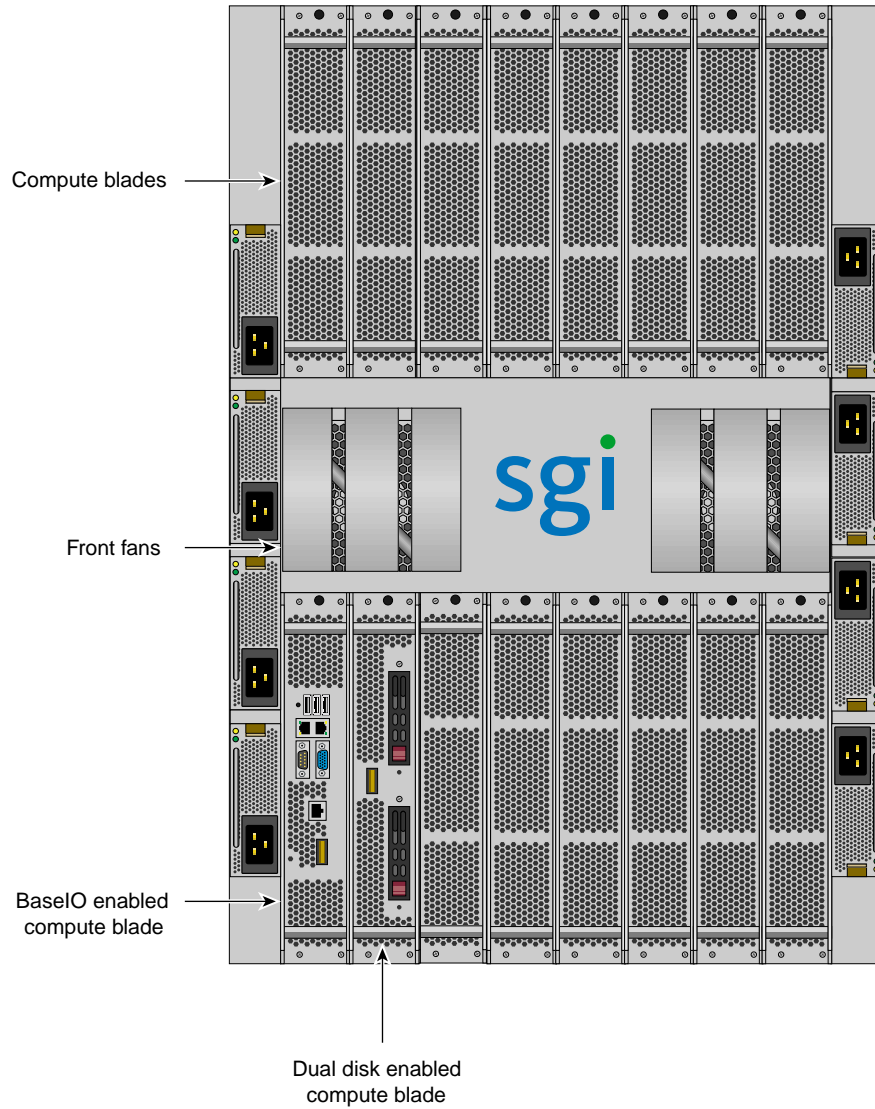
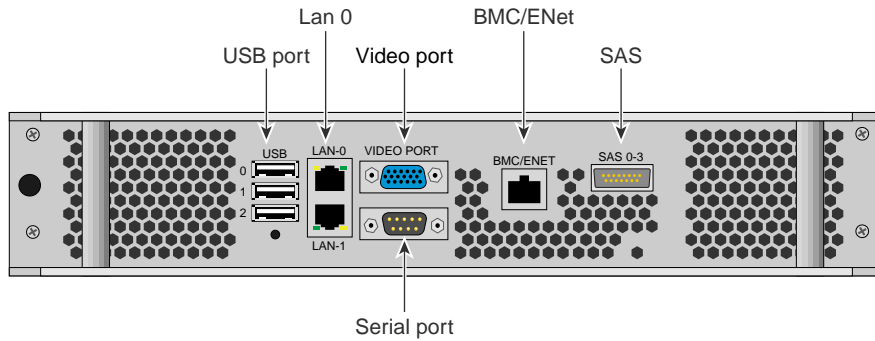
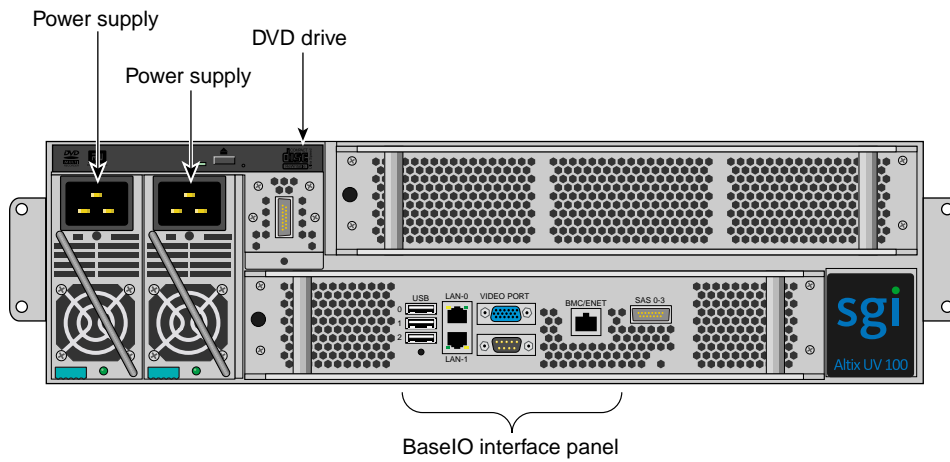

Figure 1-1 Altix UV 1000 Individual Rack Unit (IRU)
Figure 1-2 Altix UV 1000 BaseIO Riser Enabled Blade Front Panel Example
Figure 1-3 Altix UV 100 Individual Rack Unit (IRU)
3. Attach a USB keyboard, USB mouse, and VGA monitor to the BaseIO blade (see Figure 1-1 on page 3 and Figure 1-2 on page 4).
4. Attach USB DVD-ROM drive if needed (see Figure 1-2 on page 4), and insert Windows Server 2008 R2 Datacenter DVD. For the location of the Altix UV 100 DVD drive, see Figure 1-3 on page 4.